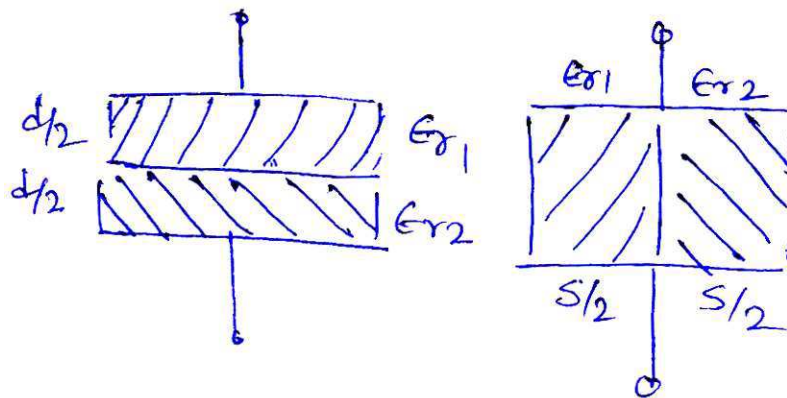

Fig. 1
- (b) Find the capacitance of each of the capacitors shown in the Fig. 1 below.